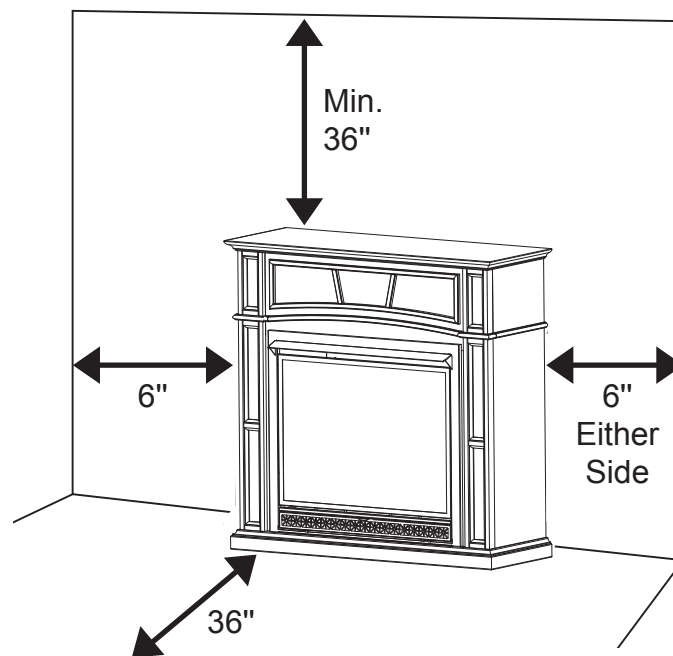

Fig. 6 - Minimum Clearance to Combustible Material
IMPORTANT: Maintain the minimum clearances shown in Figure 6 on page 13. If you can, provide greater clearances from floor, ceiling and adjoining wall.
A. Clearances from the side of the fireplace cabinet to any combustible material and wall should follow diagram in Figure 6.
The installer must supply an external regulator for liquid propane. The external regulator is provided by the gas supplier for natural gas. The external regulator will reduce incoming gas pressure. You must reduce incoming gas pressure to between 11 and 14 in. of water column for propane and between 6 and 14 in. of water column for natural gas. If you do not reduce incoming gas pressure, heater regulator damage could occur. Install external regulator with the vent pointing down as shown in Fig. 6. Pointing the vent down protects it from freezing rain or sleet.